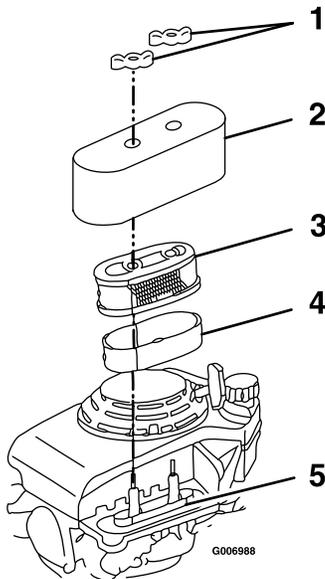

Figure 27
3. Remove the two wing nuts that secure the cover (Figure 27).